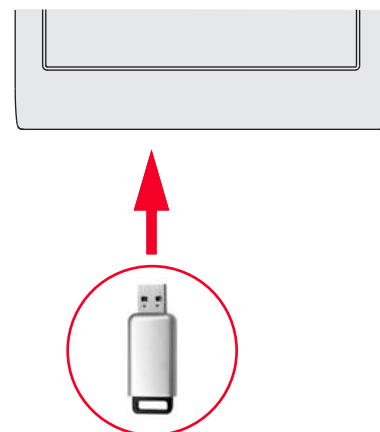

Fig. 281. Using USB device.
7. After the file is saved, remove the USB device from the computer and connect it to the thermostat. See Fig. 281. Then select the "Dealer Information" option on the thermostat.
6. After the file is saved, remove the USB device from the computer and connect it to the thermostat. See Fig. 281. Then select the "Software Update" option on the thermostat.